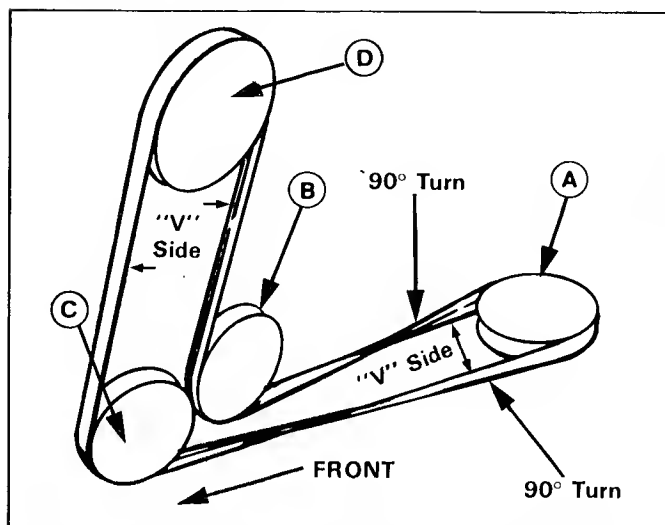

Figure 24. Belt Pattern (Seen From Left-Hand Side)
5. Place the new belt onto the engine pulley (A, figure 24), fixed pulley (B) and idler pulley (C). Note that "V" side of belt rides in the pulleys, except flat side rides against fixed pulley (B). The belt turns 90° between engine pulley and the fixed pulley (B) and between engine pulley and idler pulley (C).
6. Pull belt up from top and place onto the transmission pulley (D, figure 24).